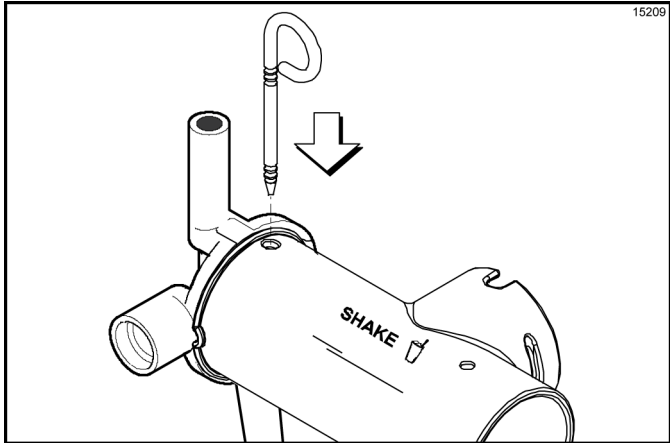

Figure 6-29
9. Secure the pump parts in position by sliding the retaining pin through the cross holes located at one end of the pump cylinder. (See Figure 6-29.)